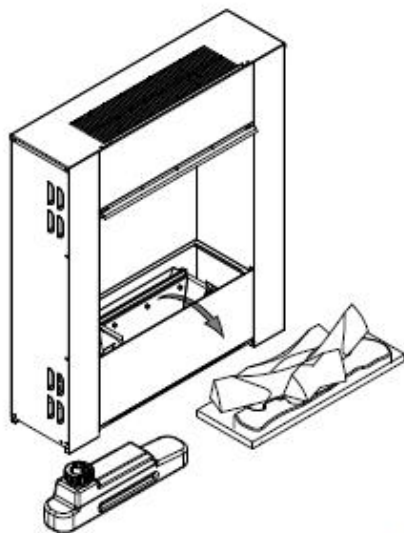

Figura 3- Removal of firewood and tank;
2. Carefully lift the tank and set it aside (Figura 3);